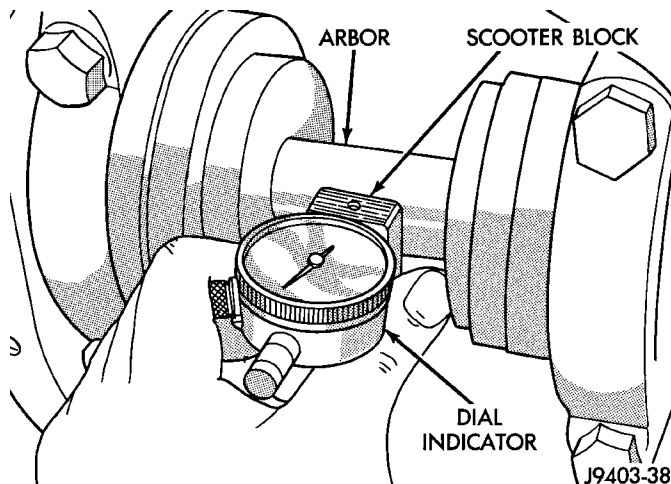

Fig. 75 Pinion Gear Depth Measurement—Typical
(5) Assemble Dial Indicator C-3339 into Scooter Block D-115-2 and secure set screw.
(6) Place Scooter Block/Dial Indicator in position in axle housing so dial probe and scooter block are flush against the surface of the pinion height block. Hold scooter block in place and zero the dial indicator face to the pointer. Tighten dial indicator face lock screw.
(7) With scooter block still in position against the pinion height block, slowly slide the dial indicator probe over the edge of the pinion height block. Observe how many revolutions counterclockwise the dial pointer travels (approximately 0.125 in.) to the out-stop of the dial indicator.
(8) Slide the dial indicator probe across the gap between the pinion height block and the arbor bar with the scooter block against the pinion height block (Fig. 75). When the dial probe contacts the arbor bar, the dial pointer will turn clockwise. Bring dial pointer back to zero against the arbor bar, do not turn dial face. Continue moving the dial probe to the crest of the arbor bar and record the highest reading. If the dial indicator can not achieve the zero reading, the rear bearing cup or the pinion depth gauge set is not installed correctly.